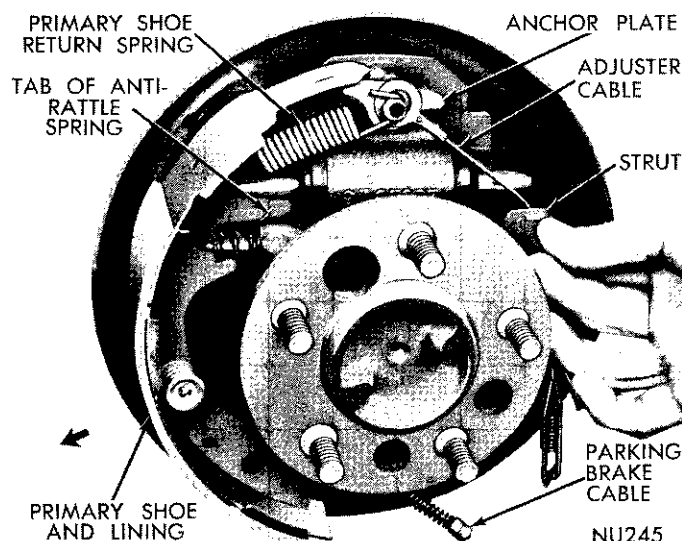

Fig. 6—Removing or Installing Parking Brake Strut and Spring (Left Rear)
(5) Spread anchor ends of primary and secondary shoes and remove parking brake lever strut and anti-rattle spring (Fig. 6).
(6) Disengage parking brake cable from parking brake lever.
(7) Disengage primary and secondary shoes from push rods and remove from support. Remove adjusting star wheel assembly from shoes.